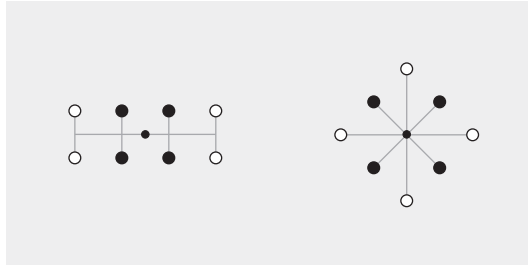

Figure 4: Non-balanced runner system
- ▶ In an unbalanced system cavities closer to the sprue are overfilled and those further away are not filled completely (see Figure 4).